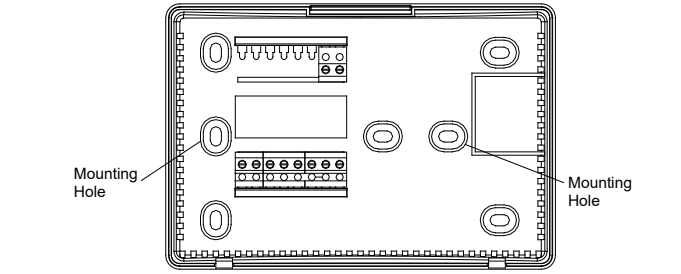

Figure 2. Thermostat base
- Connect wires beneath terminal screws on base using appropriate wiring schematic (see figs. 2 through 4).